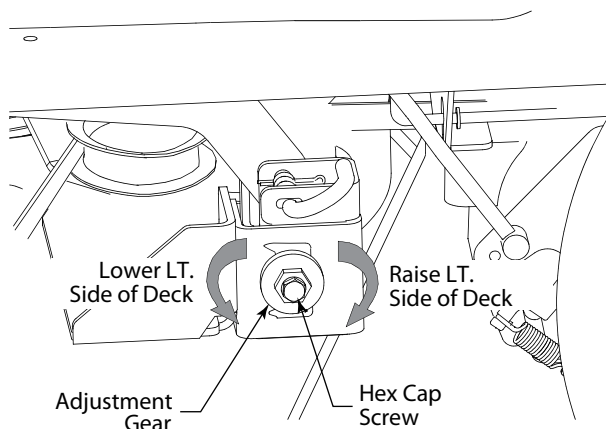

Figure 6-6
- Loosen, but do not remove, the hex cap screw on the left deck hanger bracket. See Figure 6-6.
- Level the deck by using a wrench to turn the adjustment gear (found immediately behind the hex cap screw just loosened) clockwise to raise the left side of the deck, or counterclockwise to lower the left side of the deck. See Figure 6-6.